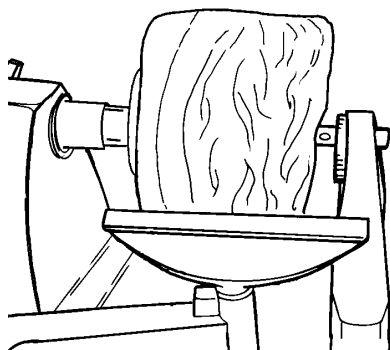

Figure C-49a
- Large, heavy stock should be turned only at very low speeds, AND with the extra support of the tailstock, as seen in Figure C-49a.
- d. Turn the outside first. Adjust the height of the tool rest and align it parallel to the stock and not more than 1/4" away. When turning heavy stock mount the tool rest in the center position. Support the stock with both the main spindle and the tailstock, as shown in Figure C-49a.